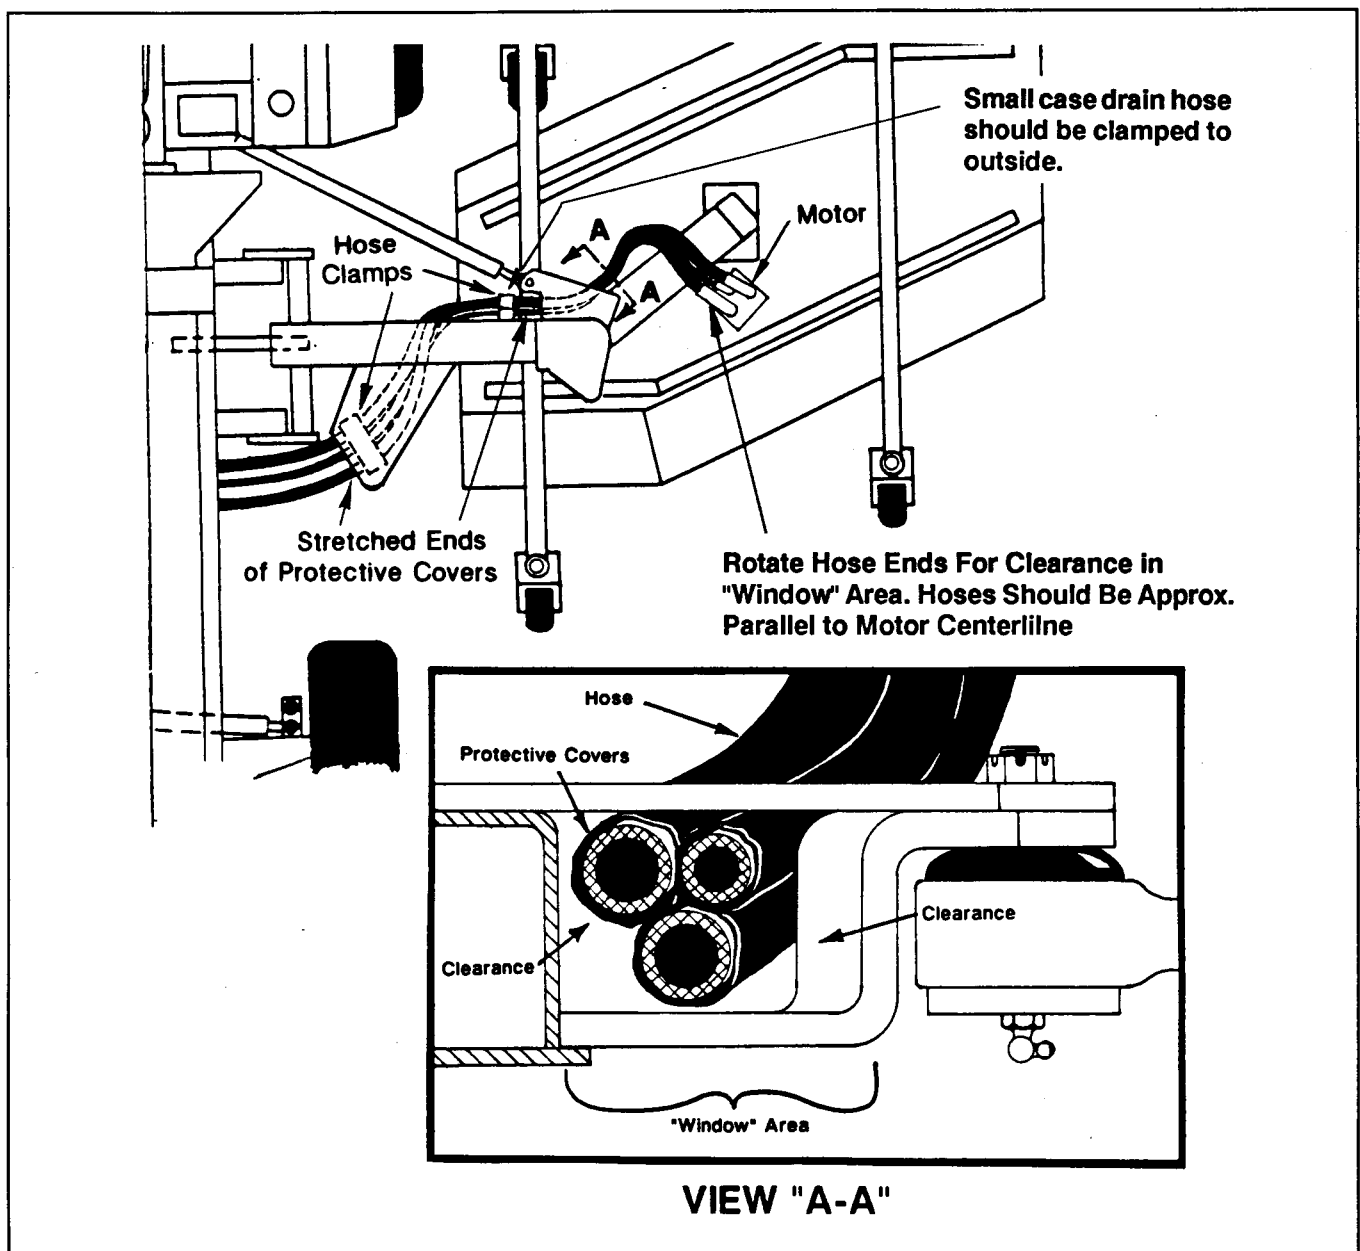

Figure 36
4. Inspect routing of hoses through "window" in outer lift arm. If hoses make contact with lift arm in this area, pivot 90° formed end of hoses (motor end) until clearance is obtained between hoses and "window" (Fig. 36). Hoses should be approximately parallel to motor centerline.